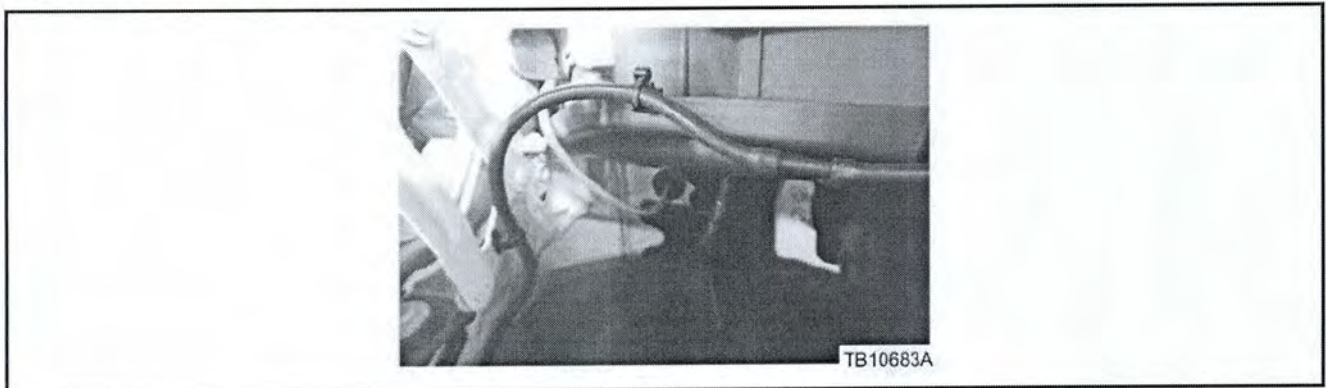

Figure 3 - Article 15-0118
- a. Install the outboard end of the diverter into the sheet metal notch behind the hood hinge. Route the orange antenna wire in front of the diverter. (Figure 3)
- (1) The vehicle is equipped with a driver side diverter. Refer to the driver side diverter for proper positioning.
- b. Route the washer hose under the inboard end of the diverter and snap the diverter up onto the cowl panel grille. (Figure 3)
- c. Attach the washer hose clip to the front edge of the diverter. (Figure 3)